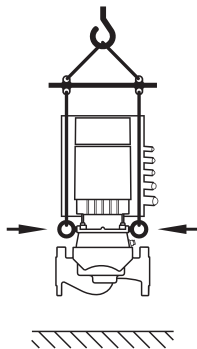

Fig. 8: Transporting the pump
- The pump must be transported using approved load-bearing equipment (e.g. block and tackle, crane, etc.). These are to be attached to the transport eyes at the motor flange (Fig. 8, shown here: lifting direction with vertical motor shaft).